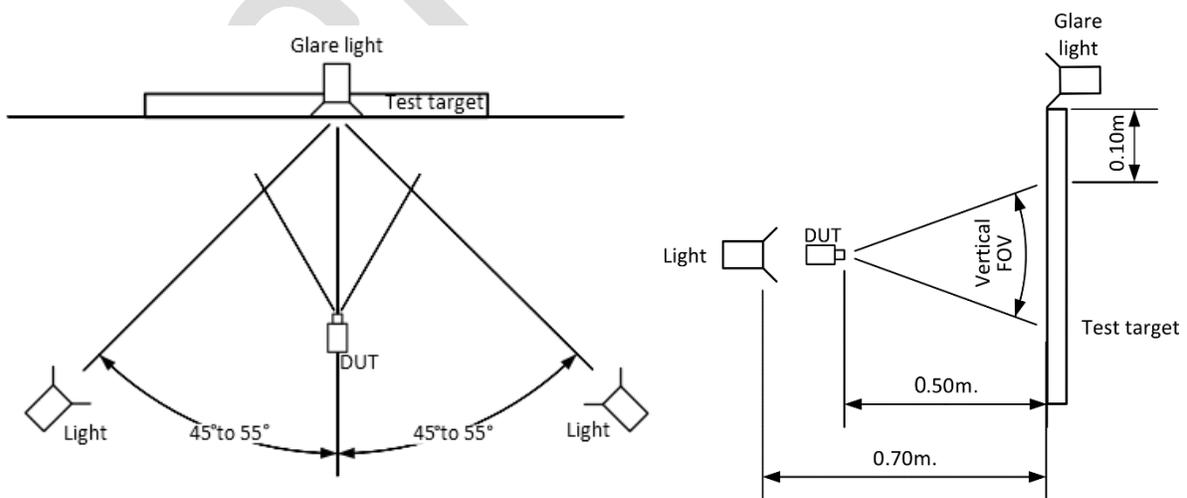

Figure 30: Veiling glare test setup
- Note: the testing distance for veiling glare is described on Figure 30: Veiling glare test setup.